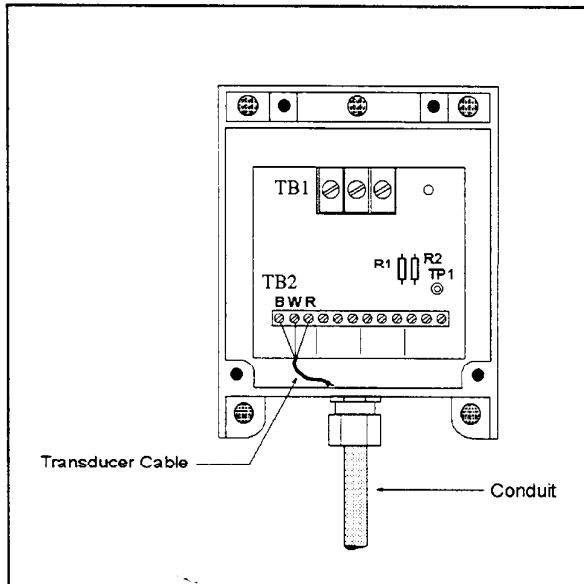

Figure 2-20. Wiring Transducers to a Plastic Junction Box.
2. Thread the transducer wires through the conduit as shown in Figure 2-20.